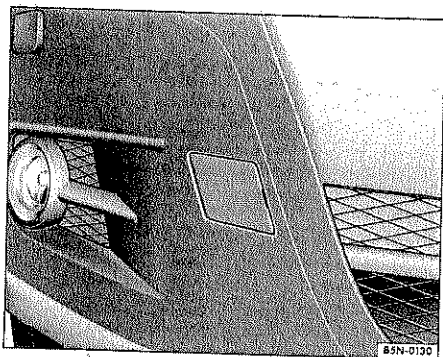

Fig. 43 In the right front bumper: removing the cover.
⇒ fig. 43. The cover has to be removed to reach the hole. Use the lug wrench to in-
- Using the flat blade of screwdriver, pry the cover ⇒ page 98, fig. 43 off and let it hang on the vehicle.